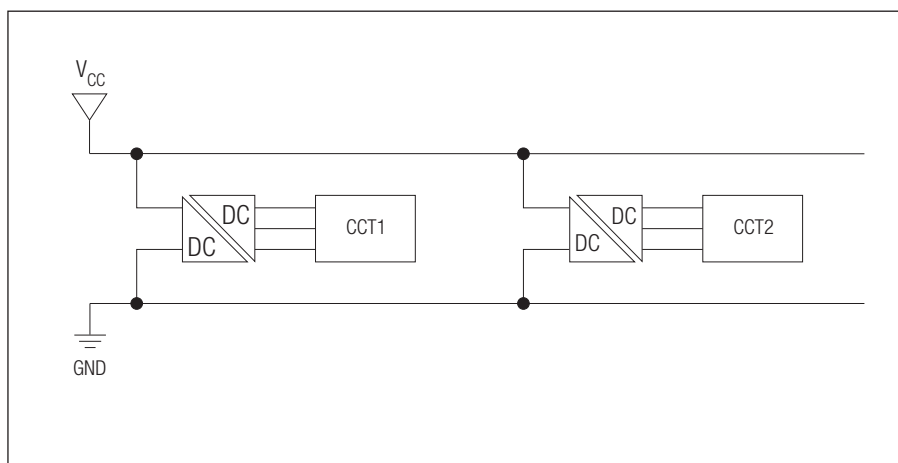

Figure 21 : Isolate Individual Systems
- Isolate individual systems where possible (especially analogue and digital systems) on both power supply and signal lines (see figure 21).